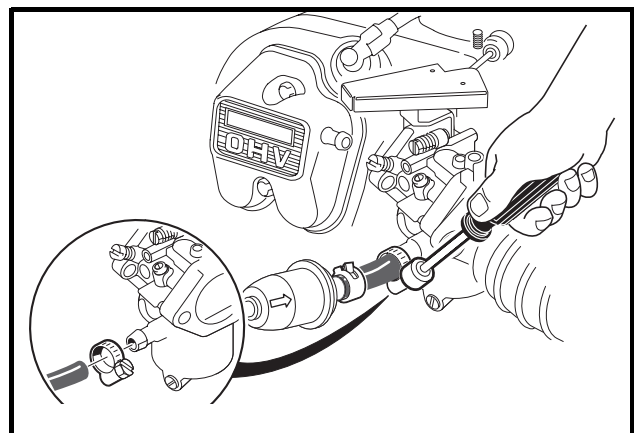

Figure 18-49 Connect Fuel Line
26. Remove the 1/4-inch bolt from the fuel line and connect the fuel line to the carburetor and secure with a hose clamp (**Figure 18-49, Page 18-17**).